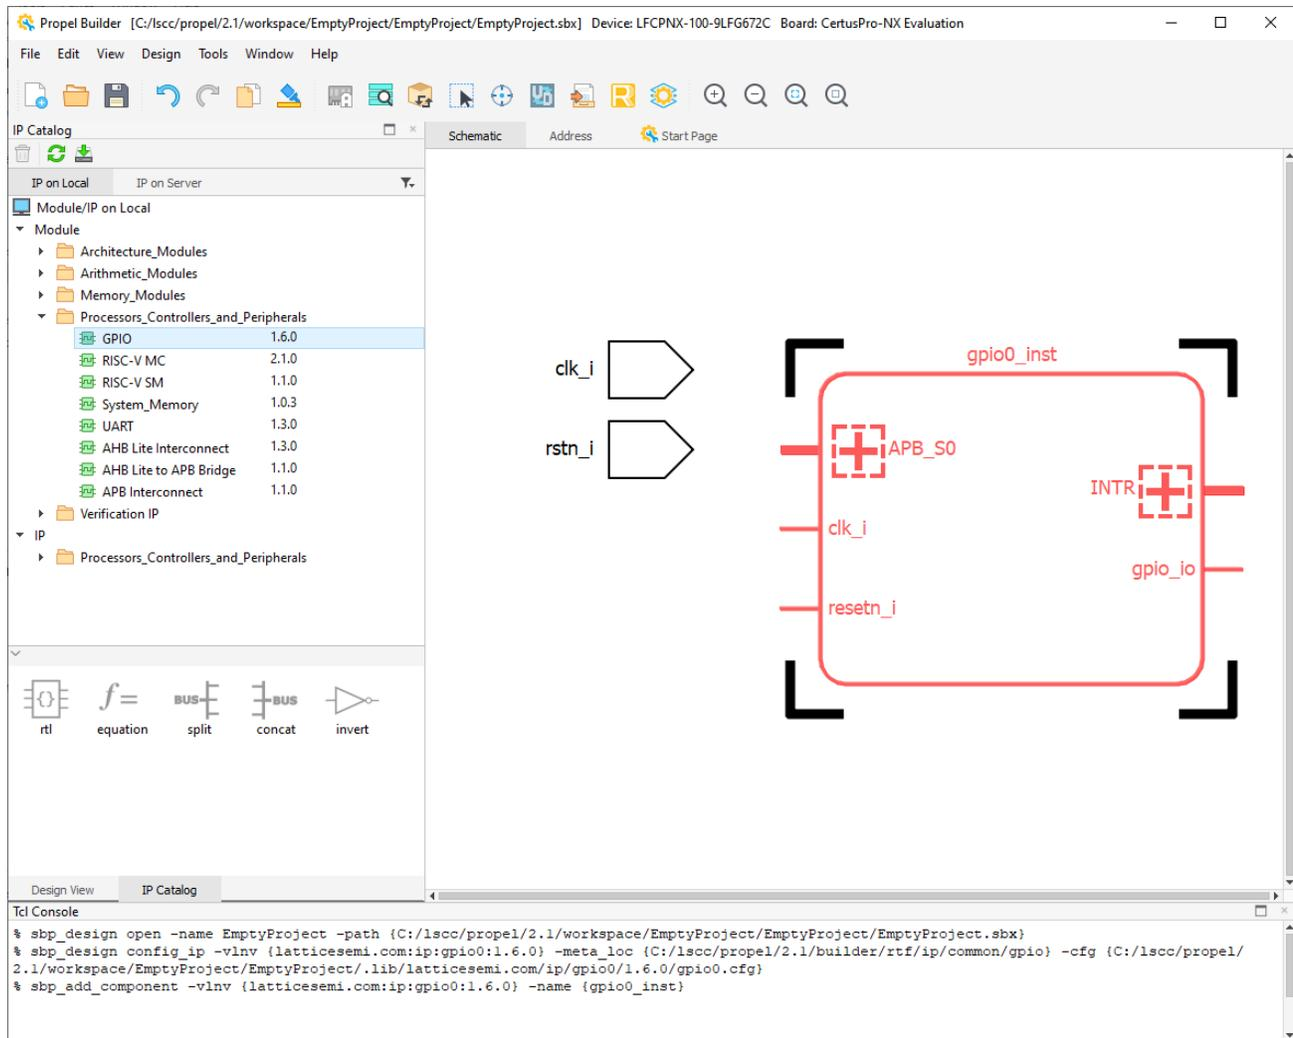

Figure 2.36. Select Object
- Click on the object in the Schematic view. The selected object turns to red (Figure 2.36).